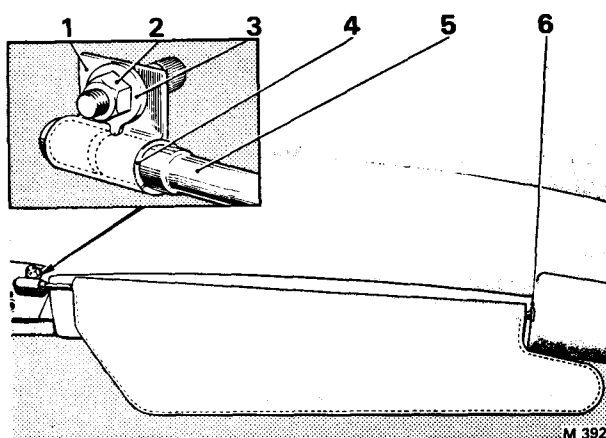

FIG. S38 SUN VISOR FRICTION BRACKET FITTED WITH TAB WASHER (Late Cars)
4. Remove the nut and special socket-headed bolt securing each sun visor into position; the head of this screw is fitted toward the windscreen side of the visor. On later cars (see Fig. S38), a special tab washer is fitted to this screw; take care not to lose this washer.